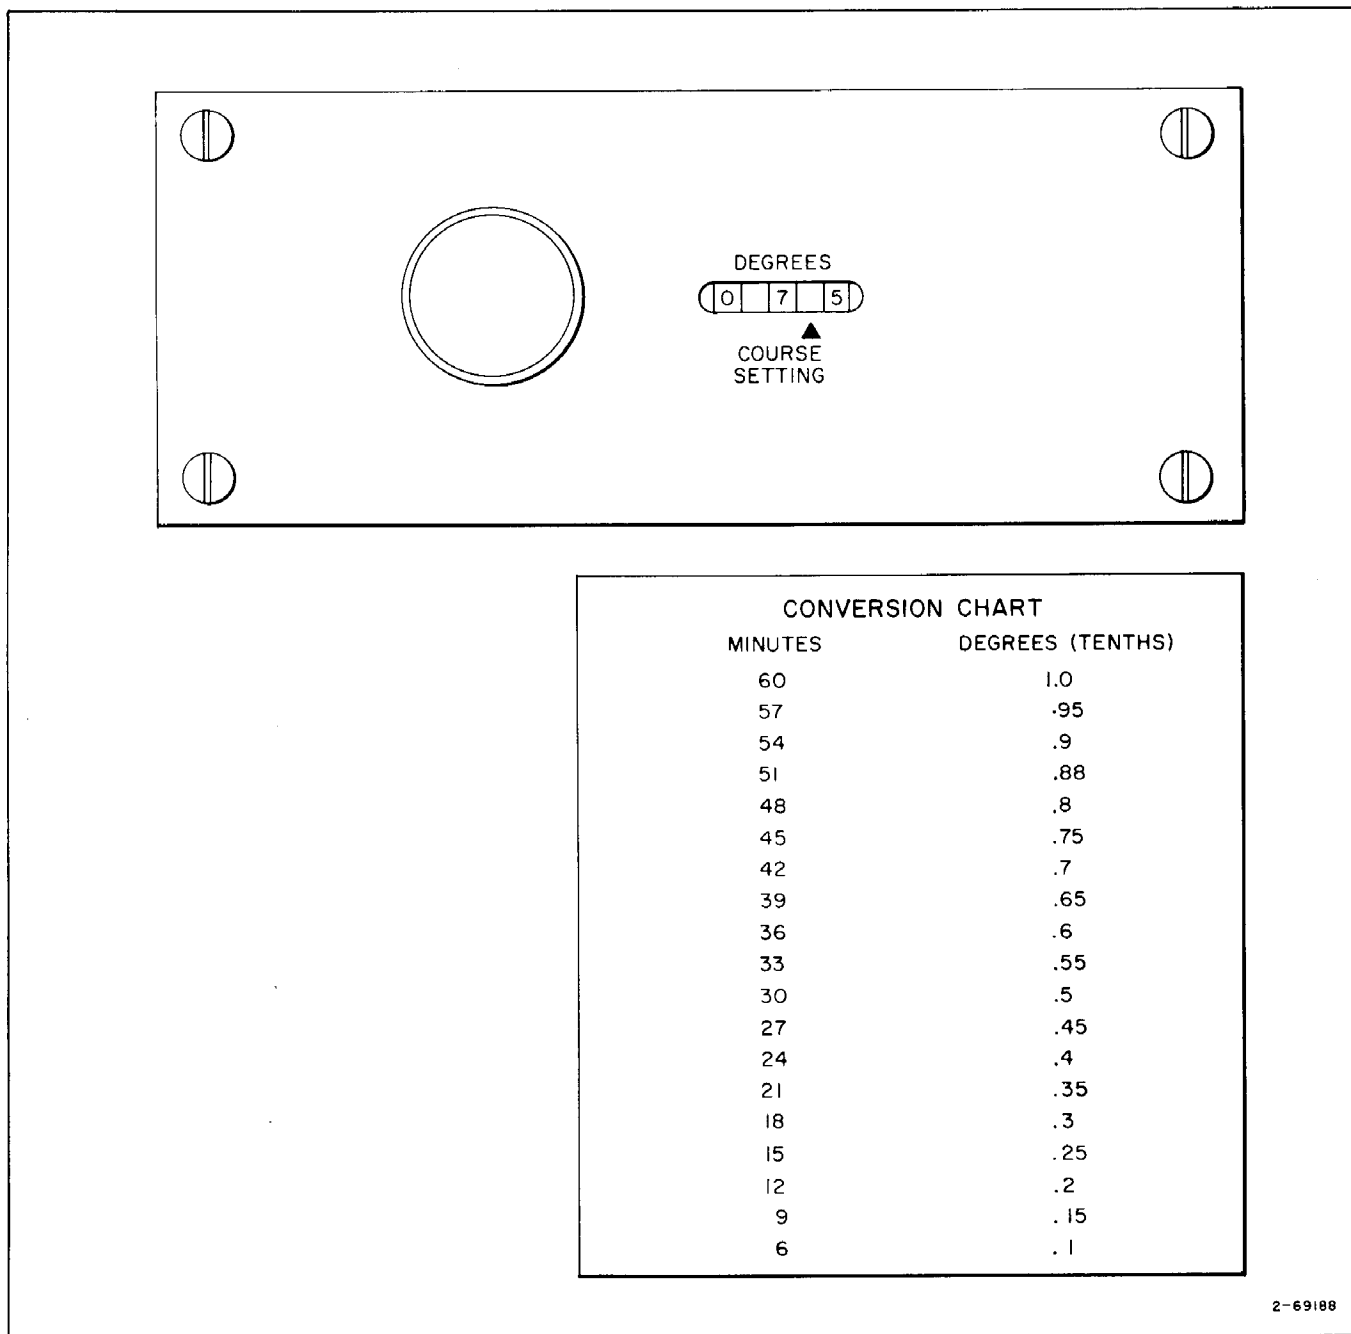

Figure 4-6. Atran Course Reference Adjustment (Effectivity D).
- d. If adjustment is necessary, determine which way COURSE SETTING Control (figure 4-6) must be turned. (Push knob to turn.) Clockwise rotation decreases reading; counterclockwise rotation increases reading.